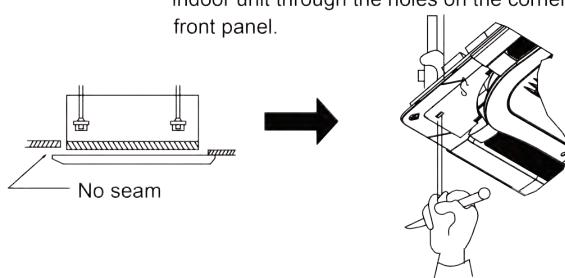

Fig. 4.32
- (3) If gap still exists between ceiling and decoration panel after tightening the screws, readjust the height of the indoor unit. (Fig. 4.32)